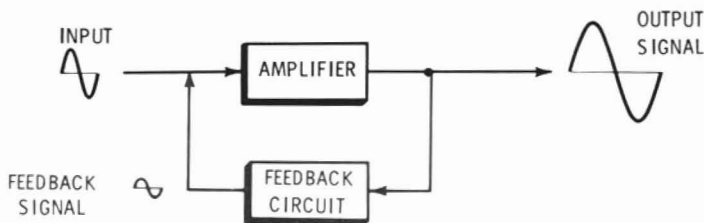

Fig. 5-5. Positive feedback.
**Positive Feedback for Oscillation**—The previous section explained the concept of feedback. To produce an oscillator, it was pointed out that some means of applying positive feedback had to be devised. Fig. 5-5 shows the block diagram of a circuit in which the amplifier is shown as a block separate from the feedback circuit. The feedback network is connected to a point toward the output of the amplifier circuit so that after the signal goes through the feedback network, it is applied back into the amplifier with the correct phase